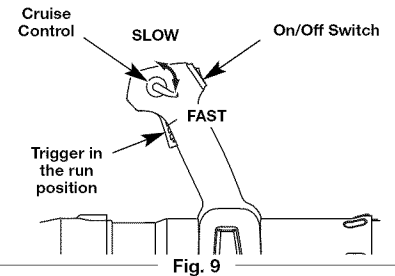

Fig. 9
**NOTE:** There is no need to turn the unit on. The On/Off Control is in the **ON (I)** position at all times (Fig. 9).
5. Press down the cruise control to lock the trigger in the **FAST** position (Fig. 9).
2. Press and hold the On/Off Control switch in the **OFF (O)** position until the engine comes to a complete stop (Fig. 9).
1. Once the engine has started and warmed up, squeeze the trigger to accelerate the unit as needed (Fig. 9).
2. For longer periods of operation and to eliminate possible finger fatigue, move the cruise control toward the FAST position to incrementally increase or maintain the unit's engine speed (Fig. 9). When the cruise control is pressed, the trigger will recede into the handle.
3. To decrease engine speed, move the cruise control to the SLOW position and the trigger will return to idle position (Fig. 9).
- NOTE:** There is no need to turn the unit on. The On/Off Control is in the **ON (I)** position at all times (Fig. 9).
5. Press down the cruise control to lock the trigger into the FAST position (Fig. 9).
- Use the cruise control (Fig. 9) to keep the trigger depressed while operating to make continuous operation easier.